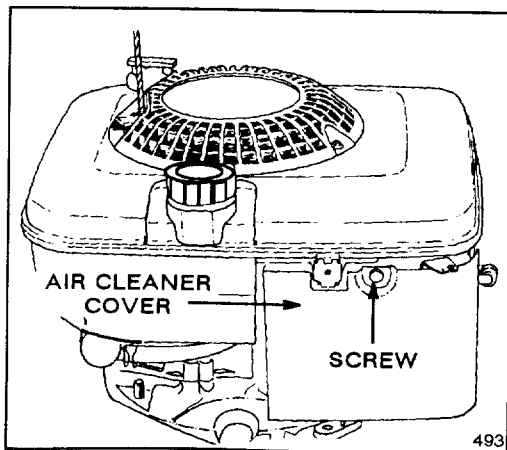

Figure 18
2. Remove screw securing air cleaner cover to engine (Fig. 18). Tilt cover down and clean thoroughly.